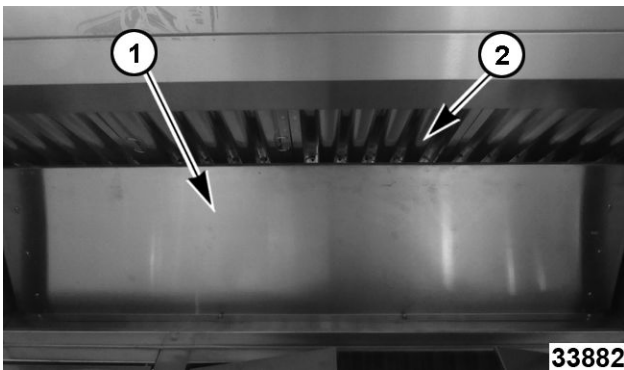

Fig. 131
- Install air baffle (1, Fig. 131) with 1/4-20 acorn nuts.
- Install grease filters (2, Fig. 131) for type 1 hood or install louvered plenum panel (Fig. 133) for type 2 hood.